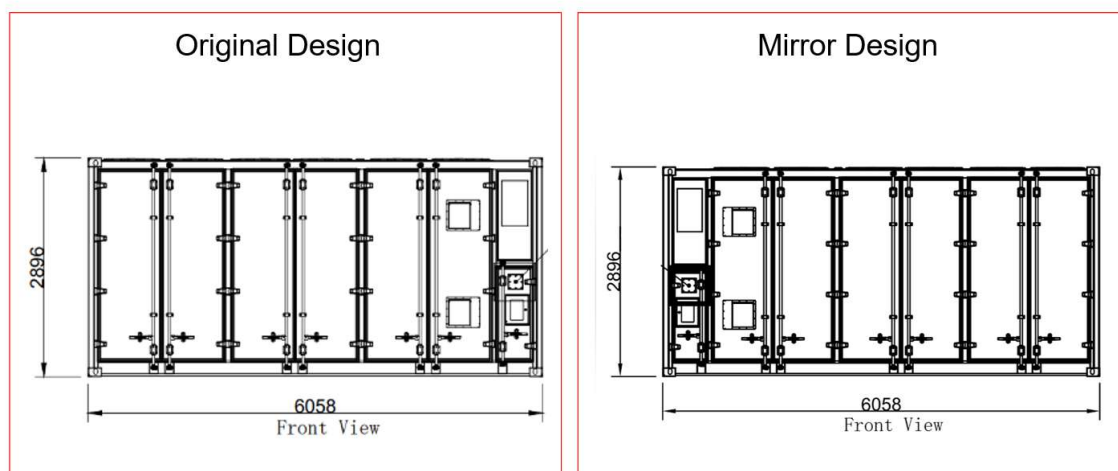

Figure 12 –The container and container fan mirror design
- ① The Container is design as a whole mirror , the container fan changed from near the back to near the door side, as figure 12 shown